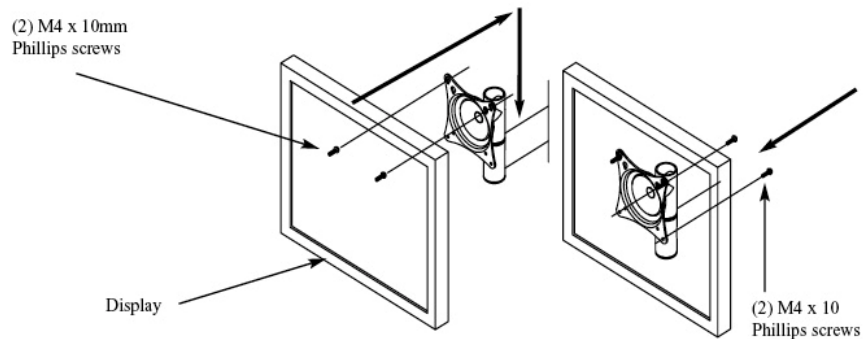

Figure 6. Monitor Installation
1. Loosely tighten two (2) M4 x 10mm Phillips Head screws to the top of the mounting points.
2. Insert the head of the screws through the keyhole slots and then secure the bottom two (2) M4 x 10mm Phillips Head screws to secure the flat panel to the mounts, then tighten the upper M4 x 10mm Phillips Head screws (Figure 6).